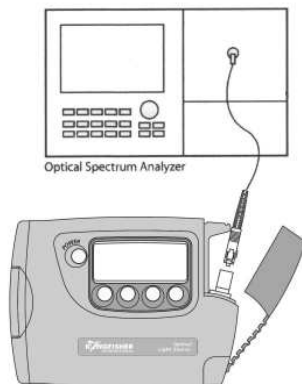

Figure 4. Test set-up for the centre wavelength and spectral bandwidth
1. Connect the equipment as shown in Figure 4.